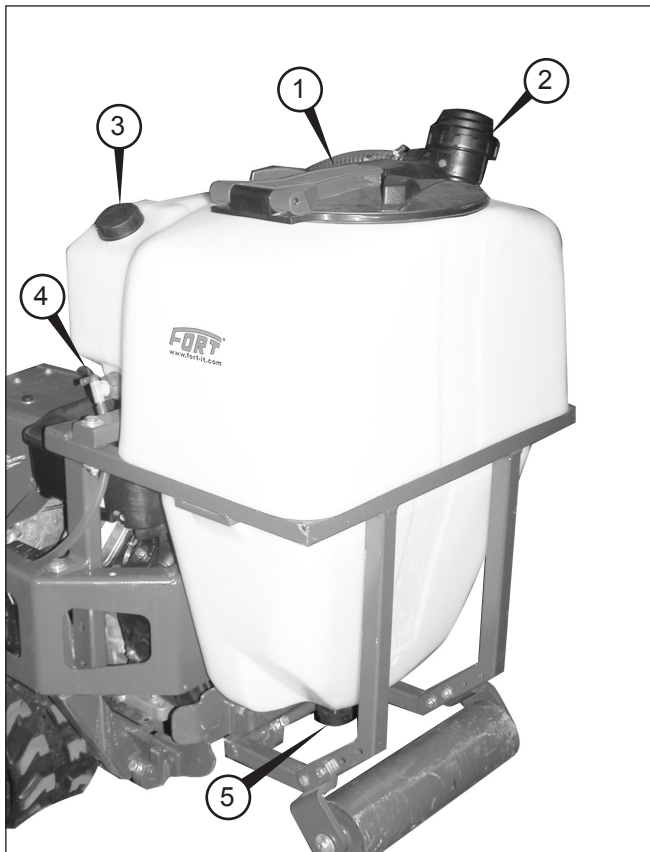

Fig. 16 - Product tank
- Make the filling of the hand cleaning tank as a first work (3 Fig. 16) so as to always have a source of clean water available.
Drain the residual liquids through the cap at the base of the tank (5 Fig. 16) after placing a collection container under the tank.